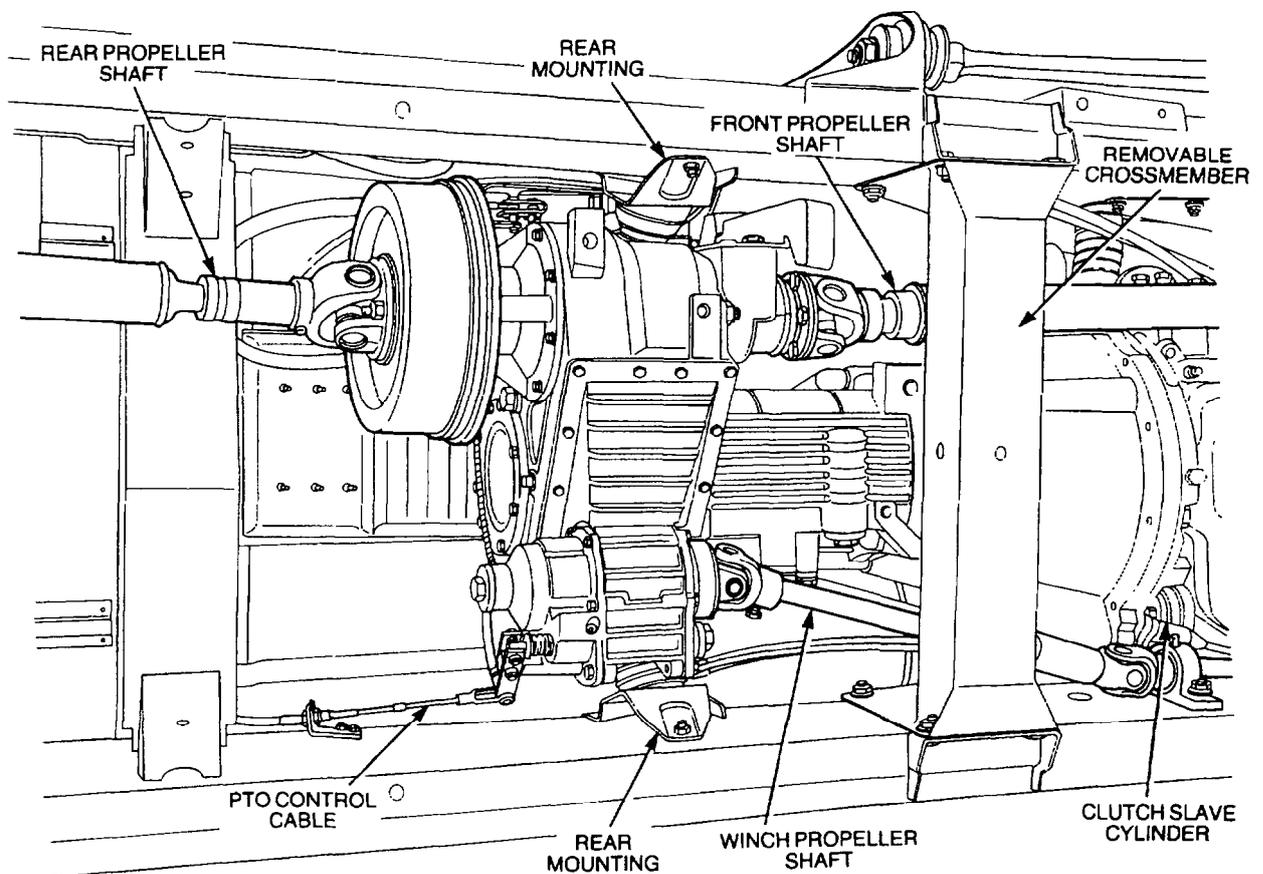

Figure 51 Transmission Removal
- x. Remove and discard the locknuts securing the rear propeller shaft flanges to the rear differential and the transmission rear output flange (Figure 51).
- z. Remove and discard the locknuts from the front propeller shaft flange at the transmission (Figure 51).
- bb. Remove the bolts and lock washers securing the winch propeller shaft flange to the PTO (Figure 51). Lower the propeller shaft.
- cc. Remove the split pin and clevis pin securing the PTO control cable to the PTO (Figure 51). Discard the split pin.
- ii. Remove the bolts securing the removable crossmember to the chassis rails and remove the crossmember by forcing it downward (Figure 51).
- jj. Remove the bolts and washers securing each rear mounting bracket to the chassis rails (Figure 51). Note the position of the rear earth strap to assist locating the earth strap when the transmission is installed.